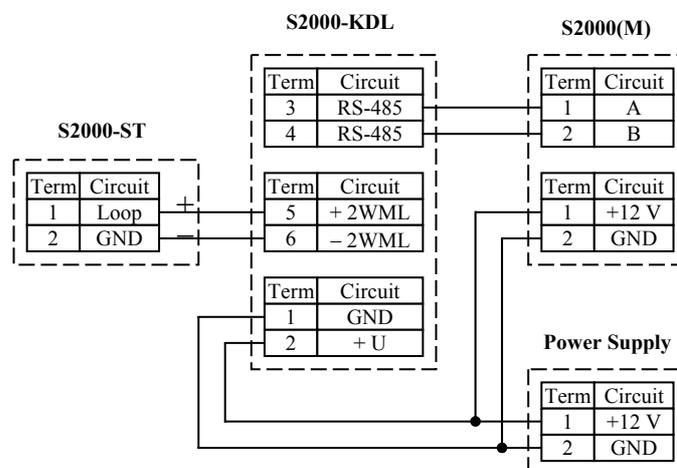

Figure 1: S2000-ST Detector Wiring Diagram
Refer to wiring diagram in Figure 1. After connecting the two-wire multiplex loop, allow 10 seconds for the detector to stabilize before testing.
- Remove the S2000-ST front cover and connect the detector to a S2000-KDL controller and Orion net controller as shown in Figure 1